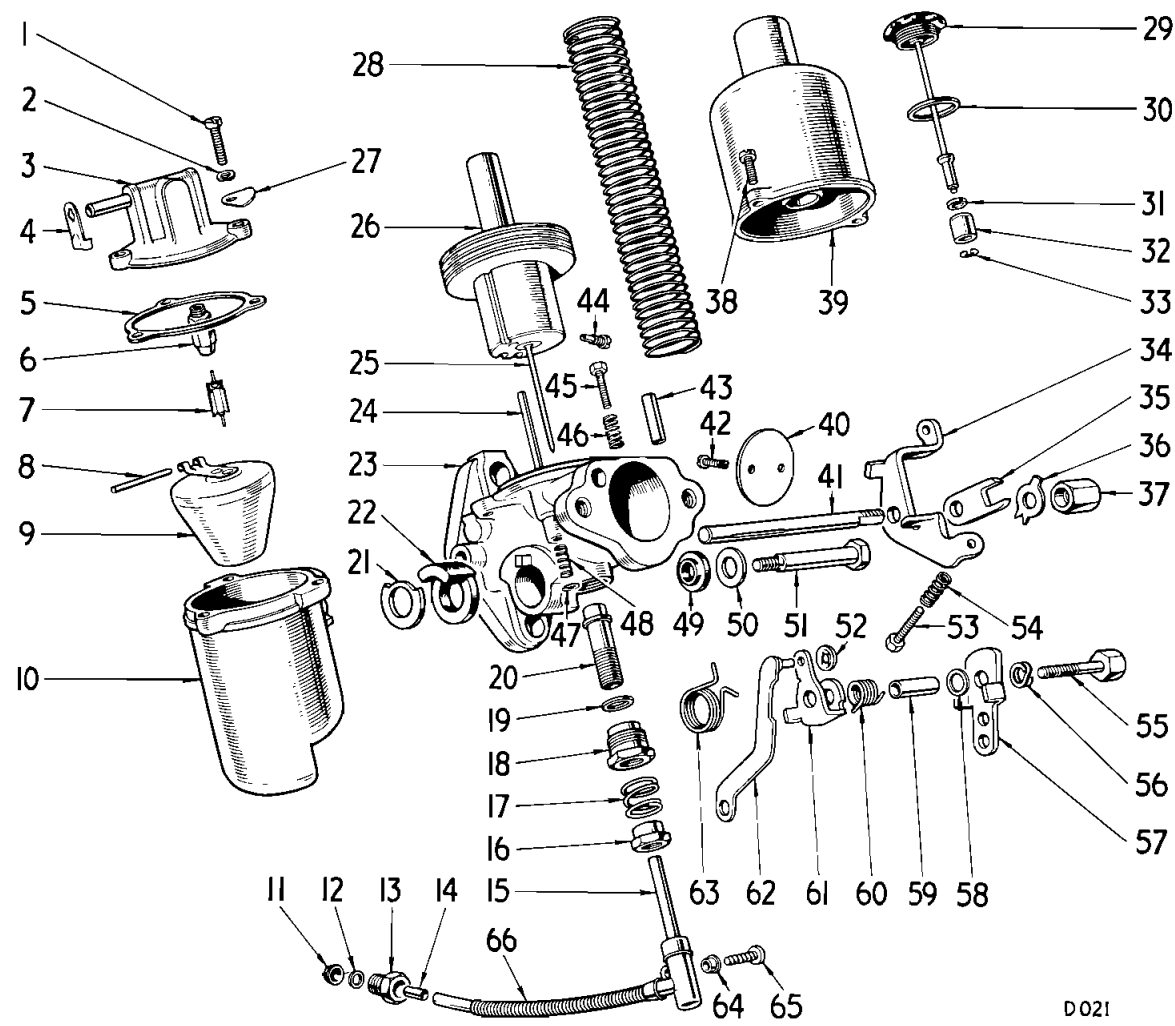

Fig. 10. Exploded S.U. carburettor
Key to Fig. 10
Re-connect the jet lever (62) Fig. 10, replenish the dampers and tune the carburetors before replacing the air cleaners.